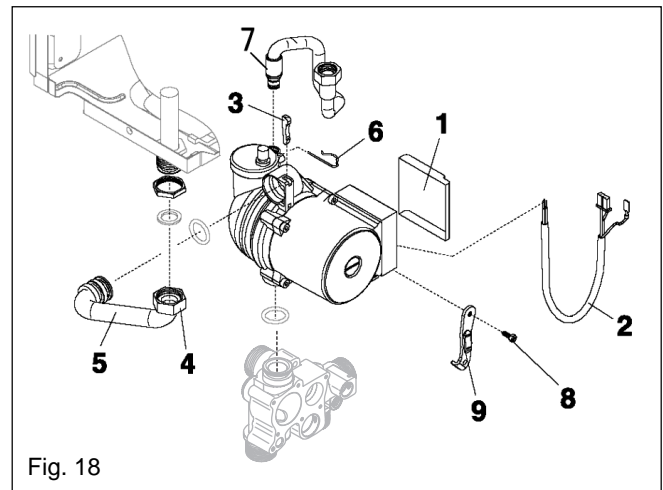

Fig. 18
**6.5    PUMP ASSEMBLY (see fig. 18)**
**6.7 AUTOMATIC AIR RELEASE VALVE (see fig. 18) (AAV)**